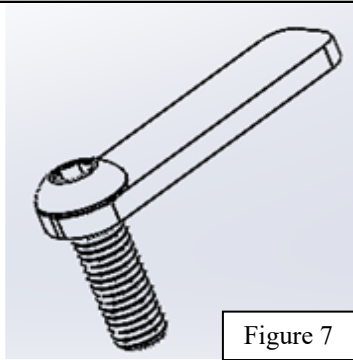

Figure 7
6. Using the provided M6 Fish wire, carefully, through the square holes place the provided M6 bolt plates (26) into the 5/6" holes. Use the provided poly retainer (27) to hold the bolt plate in place (red arrow). **Figures 7 & 8**.
- Align the template properly and it can be easiest to start by drilling a small pilot hole. See **Figure 7** for reference.